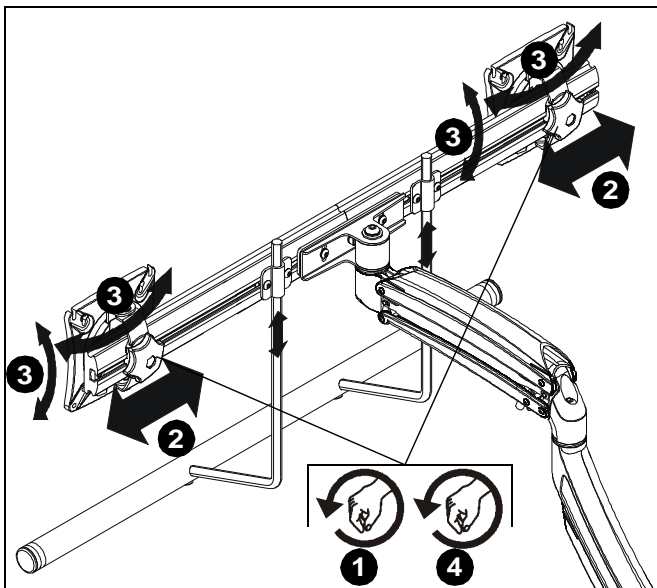

Figure 18
1. Loosen knobs securing faceplates to array. (See Figure 18)
2. Slide displays laterally on array to adjust lateral shift. (See Figure 18)
3. Adjust pitch and pivot position as desired. (See Figure 18)
4. Tighten knobs to secure faceplates in position. (See Figure 18)